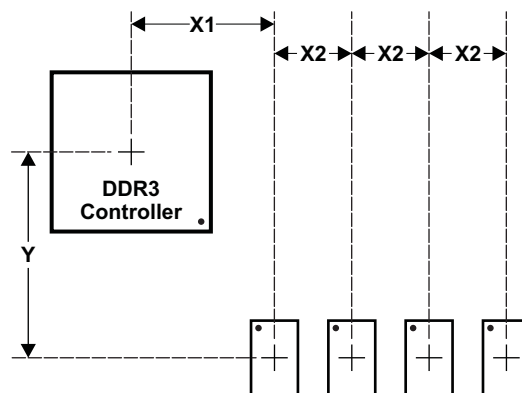

Figure 8-58. Placement Specifications
Figure 8-58 shows the required placement for the MPU as well as the DDR3 devices. The dimensions for this figure are defined in Table 8-67. The placement does not restrict the side of the PCB on which the devices are mounted. The ultimate purpose of the placement is to limit the maximum trace lengths and allow for proper routing space. For a 16-bit DDR memory system, the high-word DDR3 device(s) are omitted from the placement.
- (1) For dimension definitions, see Figure 8-58.
- (2) Measurements from center of MPU to center of DDR3 device.
- (3) Minimizing X1 and Y improves timing margins.
- (4) w is defined as the signal trace width.
- (5) Non-DDR3 signals allowed within DDR3 keepout region provided they are separated from DDR3 routing layers by a ground plane.
- (6) Note that DDR3 signals from one DDR3 controller are considered *non-DDR3* to the other controller. In other words, keep the two DDR3 interfaces separated by this specification.